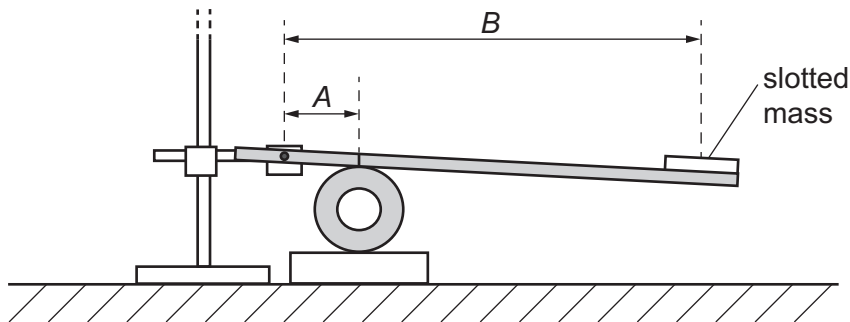

Fig. 2.5
- (c) (i) The distance between the nail and the line is  $A$  and the distance between the nail and the centre of the slotted mass is  $B$ , as shown in Fig. 2.5.